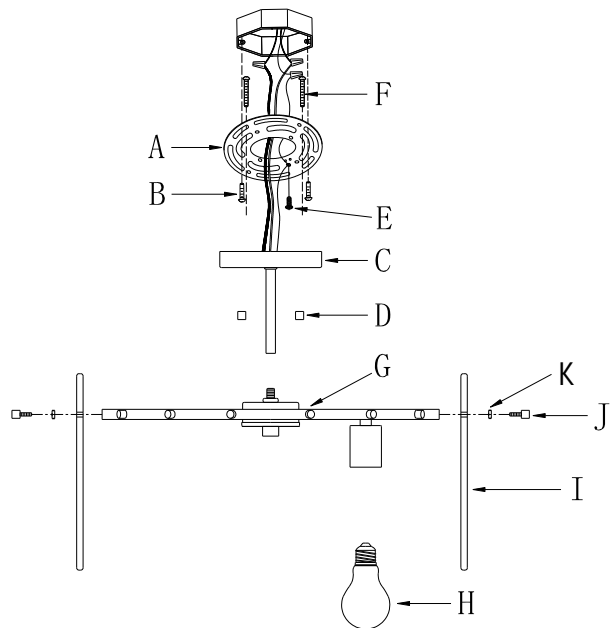

Fig. 2
CONNECTING THE WIRES (Fig. 2)
6. Connect electrical wires as shown in Fig.2, making sure that all wire connectors are secured. If your junction box has a ground wire (green or bare copper), connect the fixture's ground wire to it. Otherwise, connect the ground wire directly to the mounting plate (A) using the green screw (E) provided.